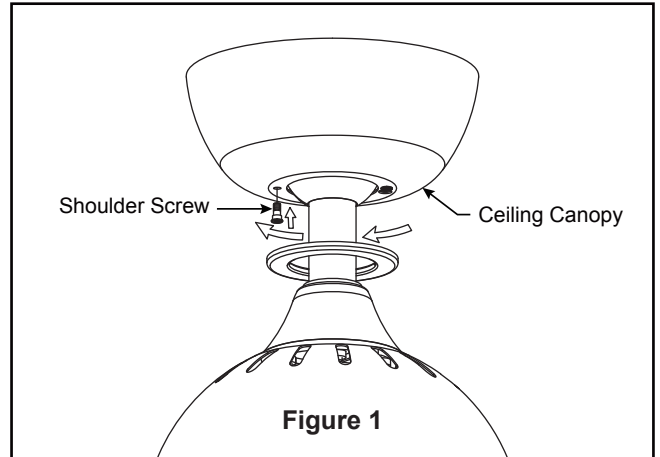

Figure 1
1. Assemble canopy by rotating key slot in canopy over shoulder screw in hanger bracket, taking care not to pinch the wires. Tighten shoulder screw. Fully assemble and tighten second shoulder screw that was previously removed. (Figure 1)